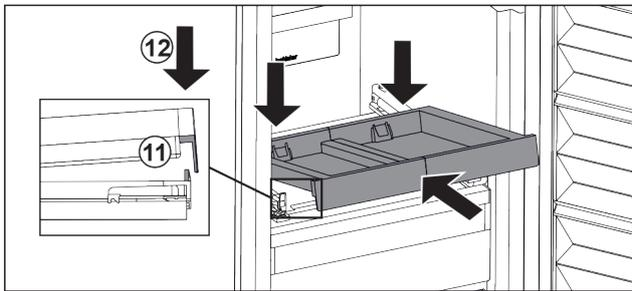

Fig. 27
- ▶ Slide in at an angle. Make sure that the stop is behind the lug on both sides. *Fig. 27 (11)*
- ▶ Lower the pull-out board at the front. *Fig. 27 (12)*